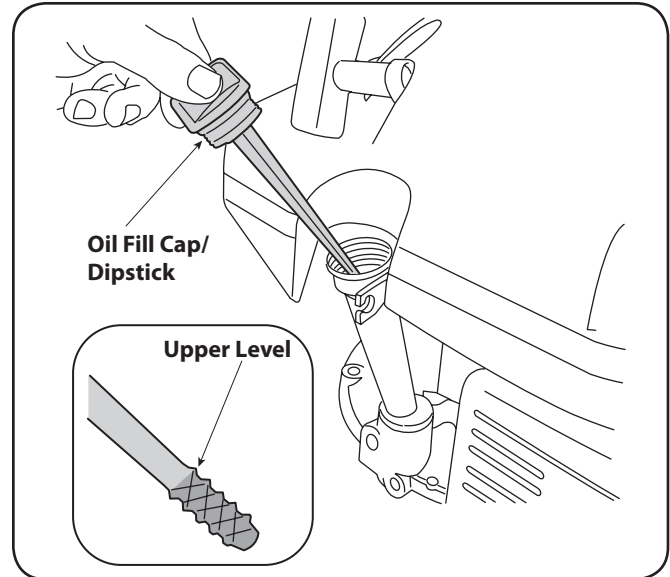

Figure 3-2
1. Remove the oil filler cap/dipstick and wipe the dipstick clean. See Fig. 3-2.
3. Remove the oil filler cap/dipstick. If the level is low, slowly add oil until oil level registers between high (H) and low (L), Fig. 3-2.
3. If the level is low, slowly add oil to the upper limit on the dipstick. See Fig. 3-2 inset.